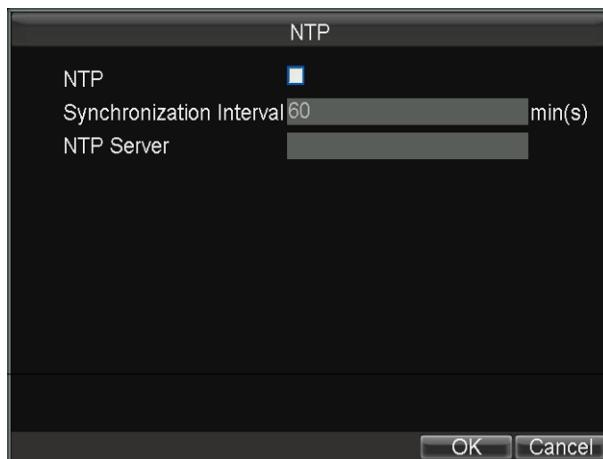

Figure 7.2 NTP Settings Interface
3. Click the **Set** button for NTP to configure the NTP server, as shown in Figure 7.2.